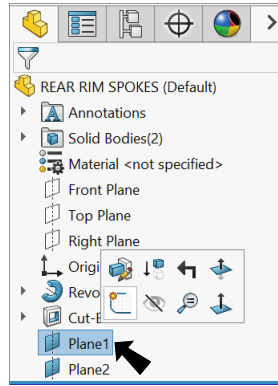

Fig. 19
Step 2. Click **Plane1** in the Feature Manager and click **Sketch** on the context toolbar, Fig. 19.